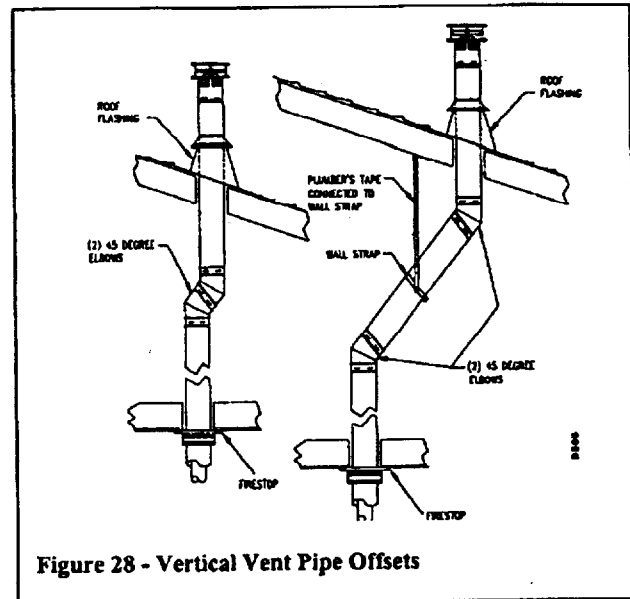
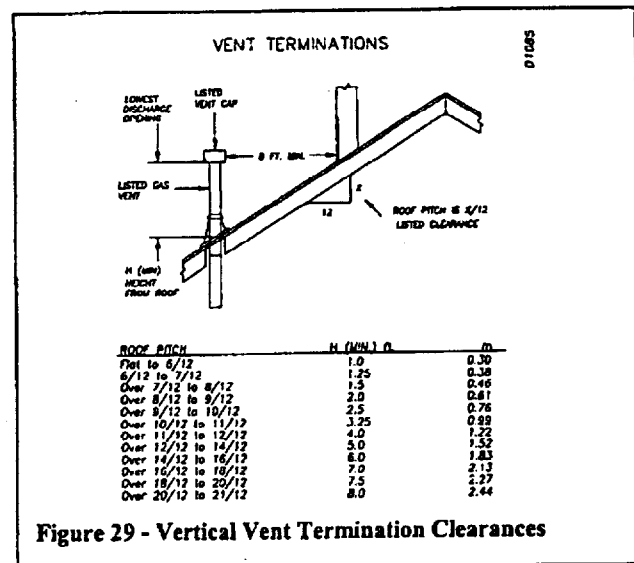

Figure 28 - Vertical Vent Pipe Offsets
Figure 29 - Vertical Vent Termination Clearances
1. Determine the route that your vertical venting will take. If ceiling joists, roof rafters, or other framing will obstruct the venting system, consider an offset (see Figure 28) to avoid cutting load-bearing members. NOTE: Pay special attention to these installation instructions for required clearances (air space) to combustibles when passing through ceilings, walls, roofs, enclosures, attic rafters, etc. Do not pack required air spaces with insulation. Also note maximum vertical rise of the venting system and any maximum horizontal offset limitations. Offsets must fall within the parameters shown in Figure 29 and Figure 14 on page 6.
Note: If an offset is needed to avoid obstructions, you must support the vent pipe every 3 feet. Use wall straps for this purpose (see Figure 28). Whenever possible, use 45° elbows instead of 90° elbows. The 45° elbow offers less restriction to the flow of the flue gases and intake air.
5. Place the flashing over the pipe section(s) extending through the roof. Apply a bead of silicone or roof sealer to the bottom flange of the flashing and secure the base of the flashing to the roof and framing with roofing nails. Be sure roofing material overlaps the top edge of the flashing as shown in figure 28, on page 12. There must be a 1" clearance from the vent pipe to combustible material.
6. Continue to add pipe section(s) until the height of the vent cap meets the minimum building code requirements described in Figure 14, on page 6. Note you must increase the vent height for steep roof pitches, nearby trees, adjoining rooflines and other adjacent factors, which may cause poor drafting or a down-draft condition (see Figure 29, on page 12). Increasing the vent height may solve this problem.